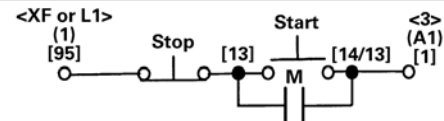

Figure 2
4. For pushbutton 3-wire control, make electrical connections per Figure 2.